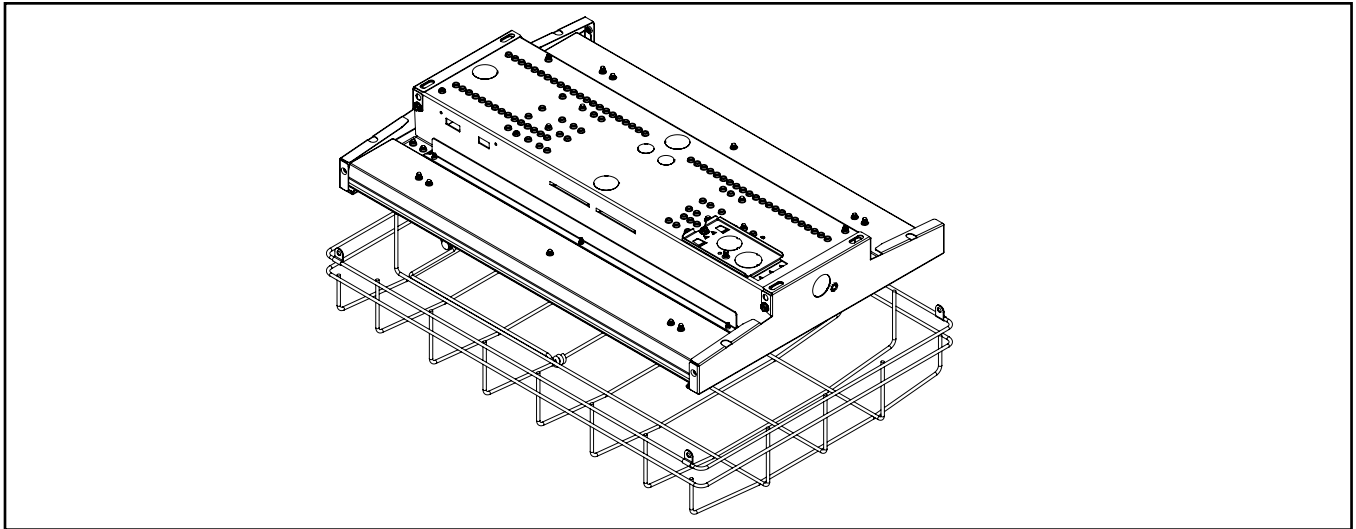

Figure 5.
5. Locate and center the guard to the outside of the fixture housing with the clips aligned with the holes on the sides of the end plates. (Figure 5)